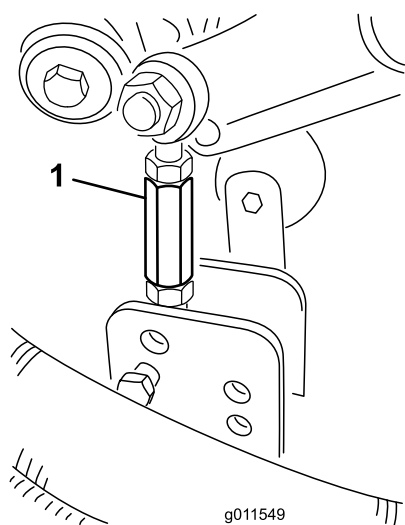

Figure 24
9. Remove the hairpin cotters and clevis pins securing the damper links to the mower-deck brackets (Figure 24).